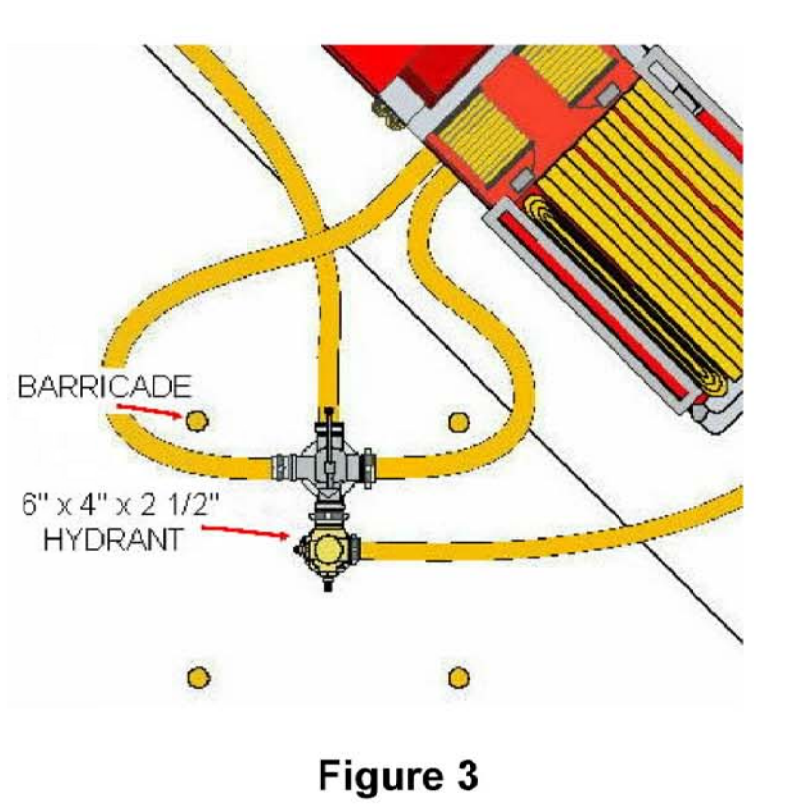

Figure 3
- Figure 3 shows hydrant hook up during fire ground operations. Notice apparatus (Hydra-Assist Valve) connected to hydrant and the required area. Figure 3 shows the importance of not constructing Barricades or other obstructions in front of hydrant outlets.